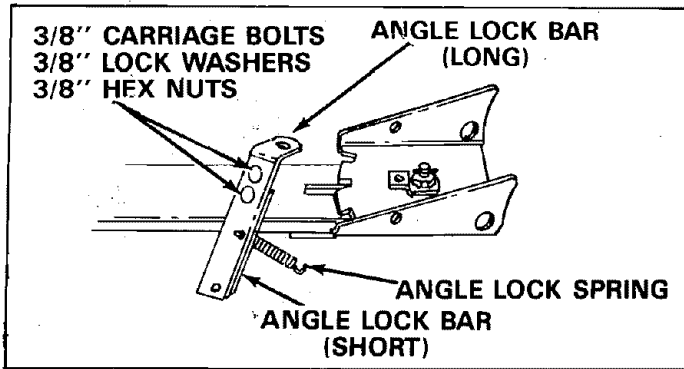

FIGURE 1
1. Assemble (long) angle lock bar, and (short) angle lock bar together using two 3/8" x 1" carriage bolts, 3/8" lock washers and 3/8" hex nuts. Do Not Tighten. See figure 1.
2. Assemble angle lock spring through angle lock bars positioning end hook as shown. See figures 1 and 2.
3. Assemble hook of angle lock spring into hole of bracket under pivot bolt. Pull lock bars up to extend spring just enough to allow assembly of angle lock bars down through slot in pivot bracket and channel. See figures 1 and 2.